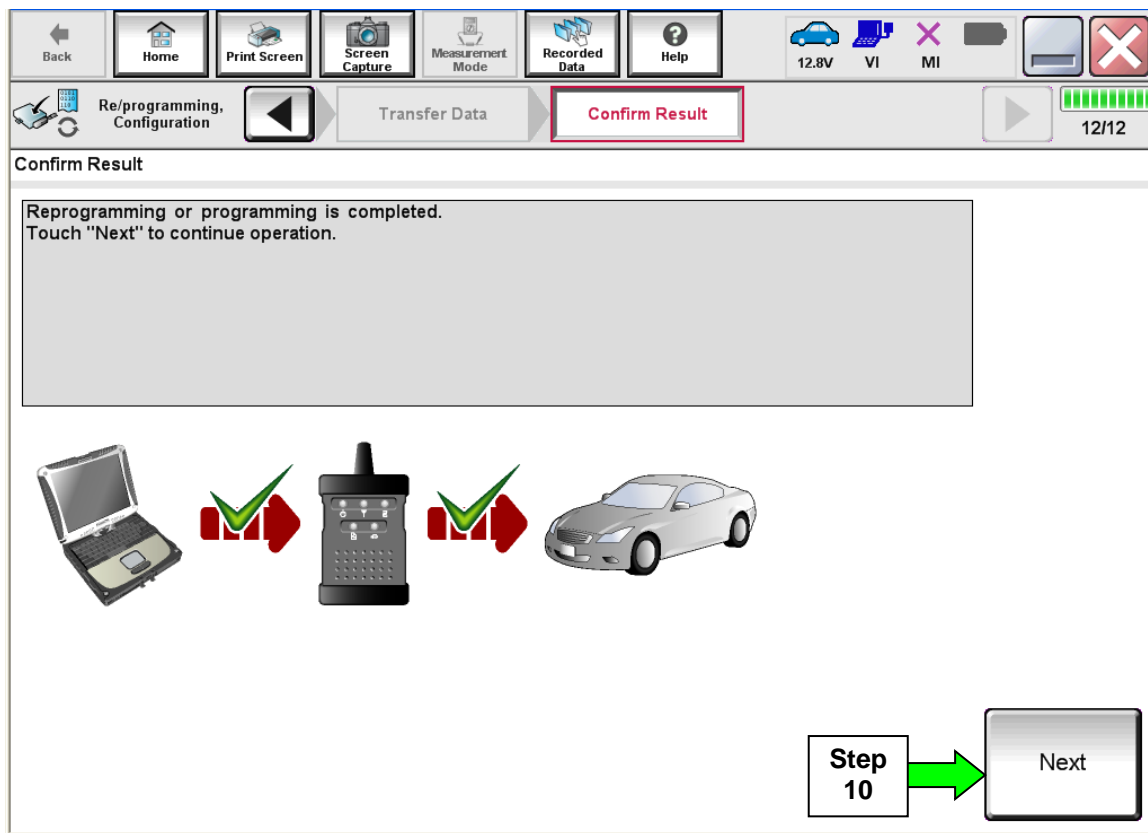

Figure 4
8. When the screen in Figure 4 displays, reprogramming is complete.
NOTE: If the screen in Figure 4 does not display (reprogramming does not complete), refer to ECM recovery on the next page.